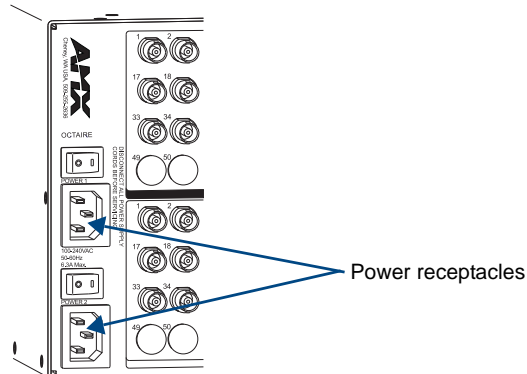

FIG. 20 Plug power cords into power receptacles
3. Plug power cords into the power receptacles on the enclosure (repeat for additional enclosures in multi-enclosure systems). Press the “I” side of both power switches on each enclosure (FIG. 20).